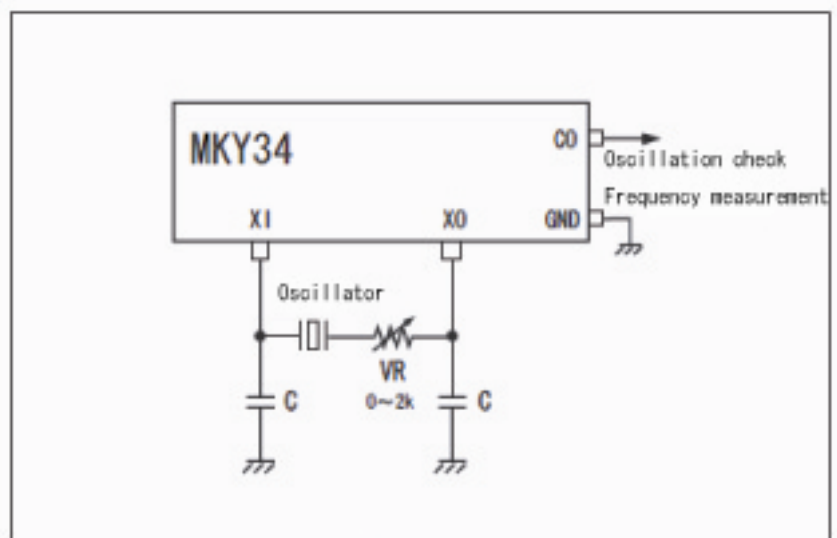

Figure 1
1. As shown in Figure 1 above, connect VR to the oscillator in series, and at the CO pin, check the oscillation and measure the frequency (place each part close to the IC, and do not route wiring).